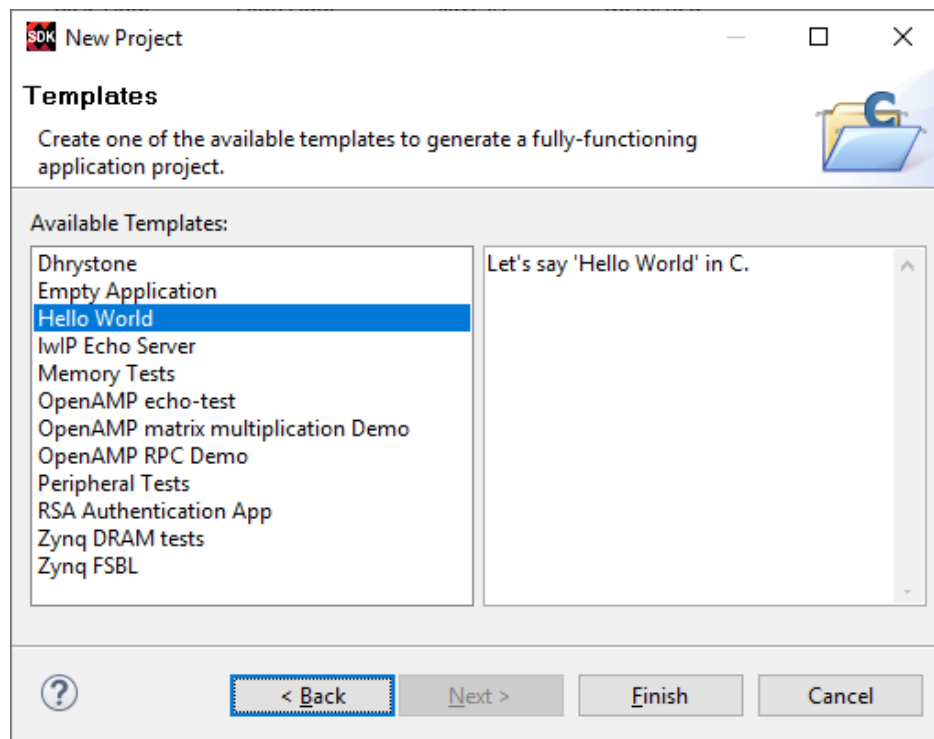

Figure 26: Selecting the new project template.
5. From the available templates, select **Hello World** (Figure 26), and click **Finish**.